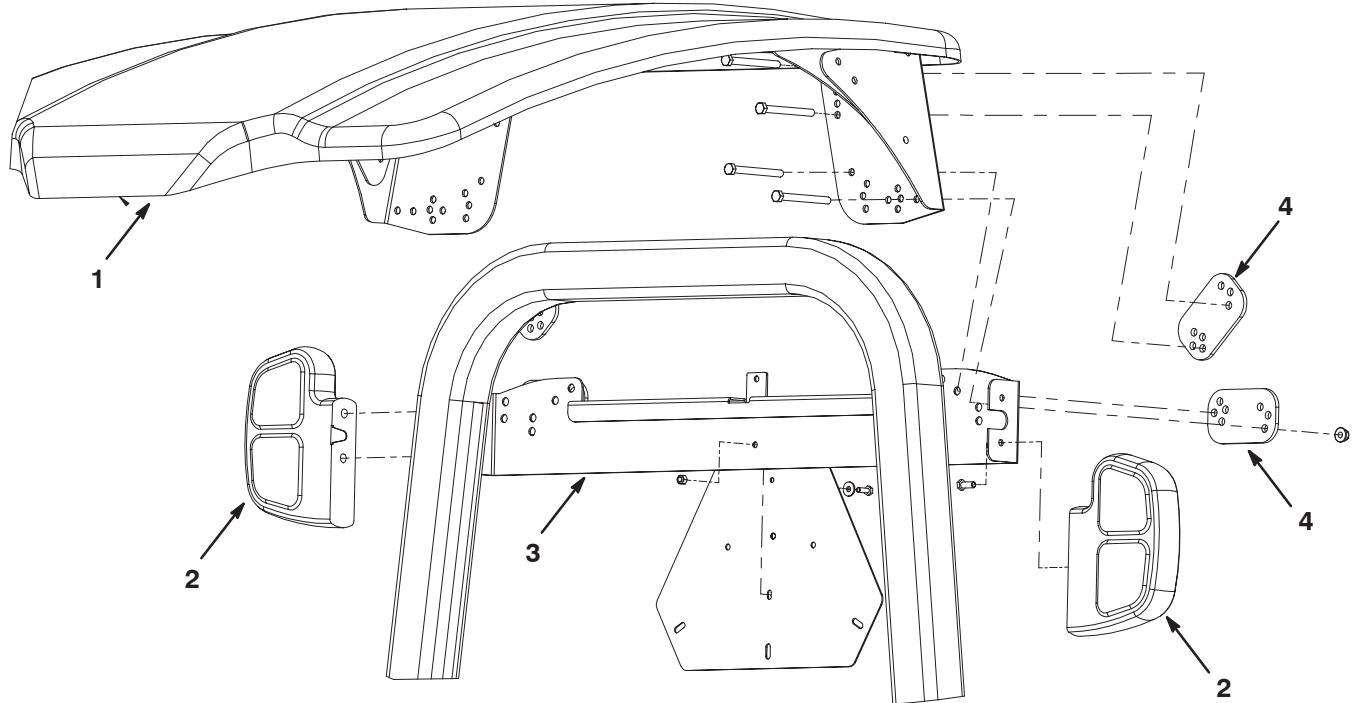

Figure 18
2. Mount the appropriate (R.H. or L.H.) tail light assembly to each end of the light bracket with (2) (M8–1.25) screws as shown in Figure 18. The black lens should be toward the front of the machine. Torque screws to 72 in-lbs. **Do Not Over Tighten The Screws.**
3. Mount the canopy, light bracket and new back up plates to the ROPS with the bolts and nuts previously removed. Use the mounting hole locations shown in figure 18. Position the light bracket between the ROPS and the lower back up plates.